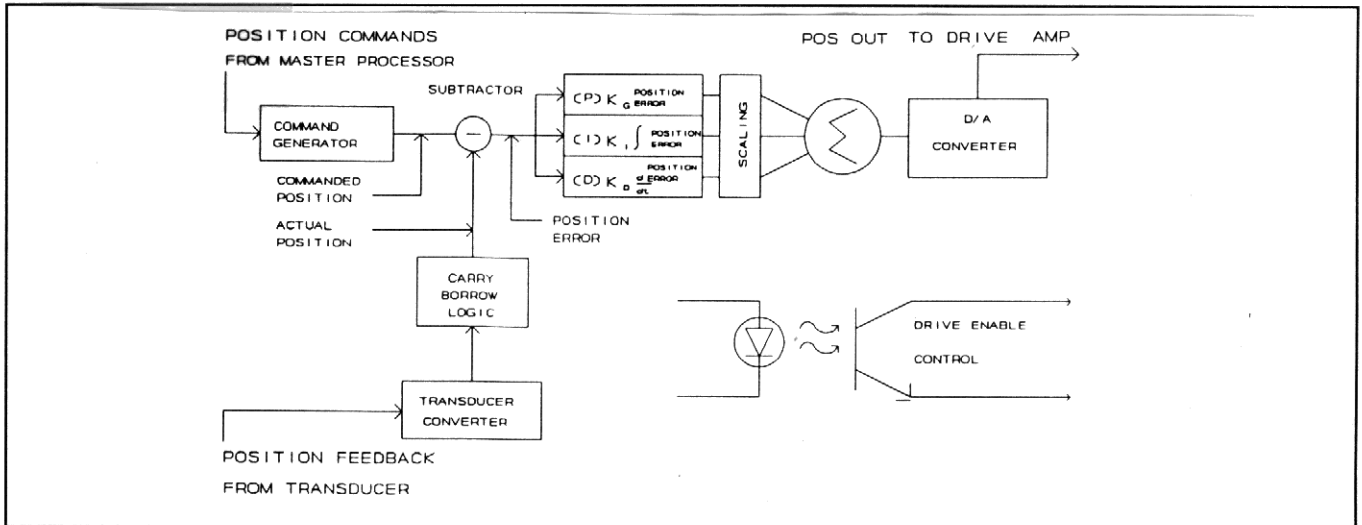

Figure 11.1 - PID Block Diagram
ACR-850, ACE-850 and MSC-250 axis controllers provide a means of digital compensation for their position loop. The Macroprogrammer can override the default gain (P) term of 16, integral (I) term of 0, and differential (D) term of 0. These terms can be adjusted to customize system response, stability, and stiffness to perform in particular applications. Figure 11.1 illustrates the integration of PID into these controllers.